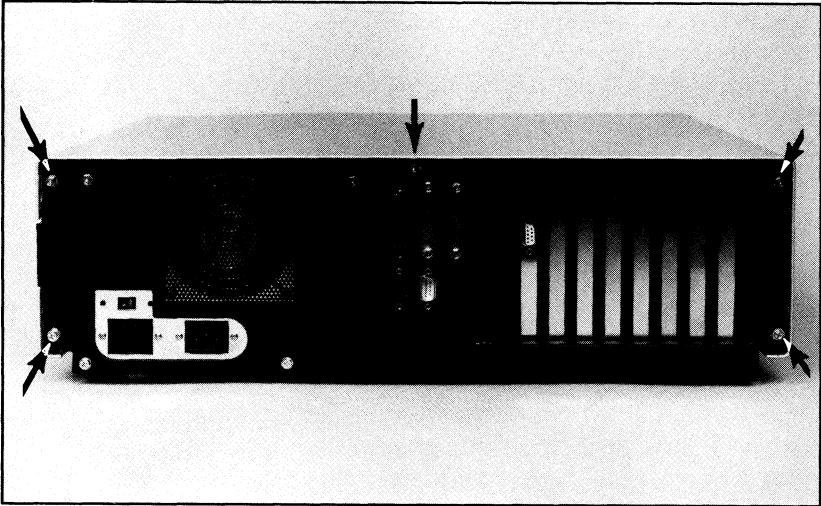

Figure 2-1. Location of the Enclosure Retaining Screws
2. Locate the five enclosure retaining screws on the rear panel of the computer (see Figure 2-1).